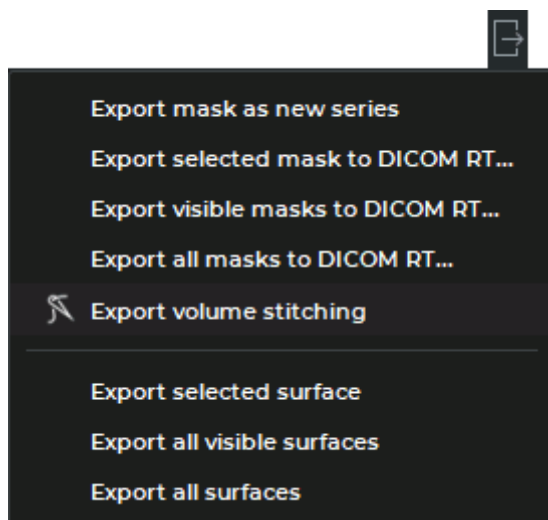

Figure 4.14: Export menu
2. Click the **Export** button on the segmented structure panel and select the **Export volume stitching** option on the dropdown menu (Fig. 4.14).